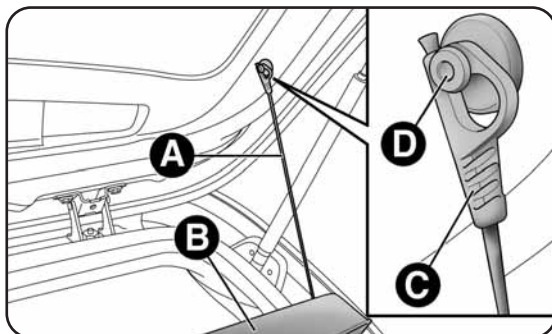

fig. 62
- free the ends of the two links A-fig. 62 supporting the parcel shelf B, releasing eyelets C from pins D;